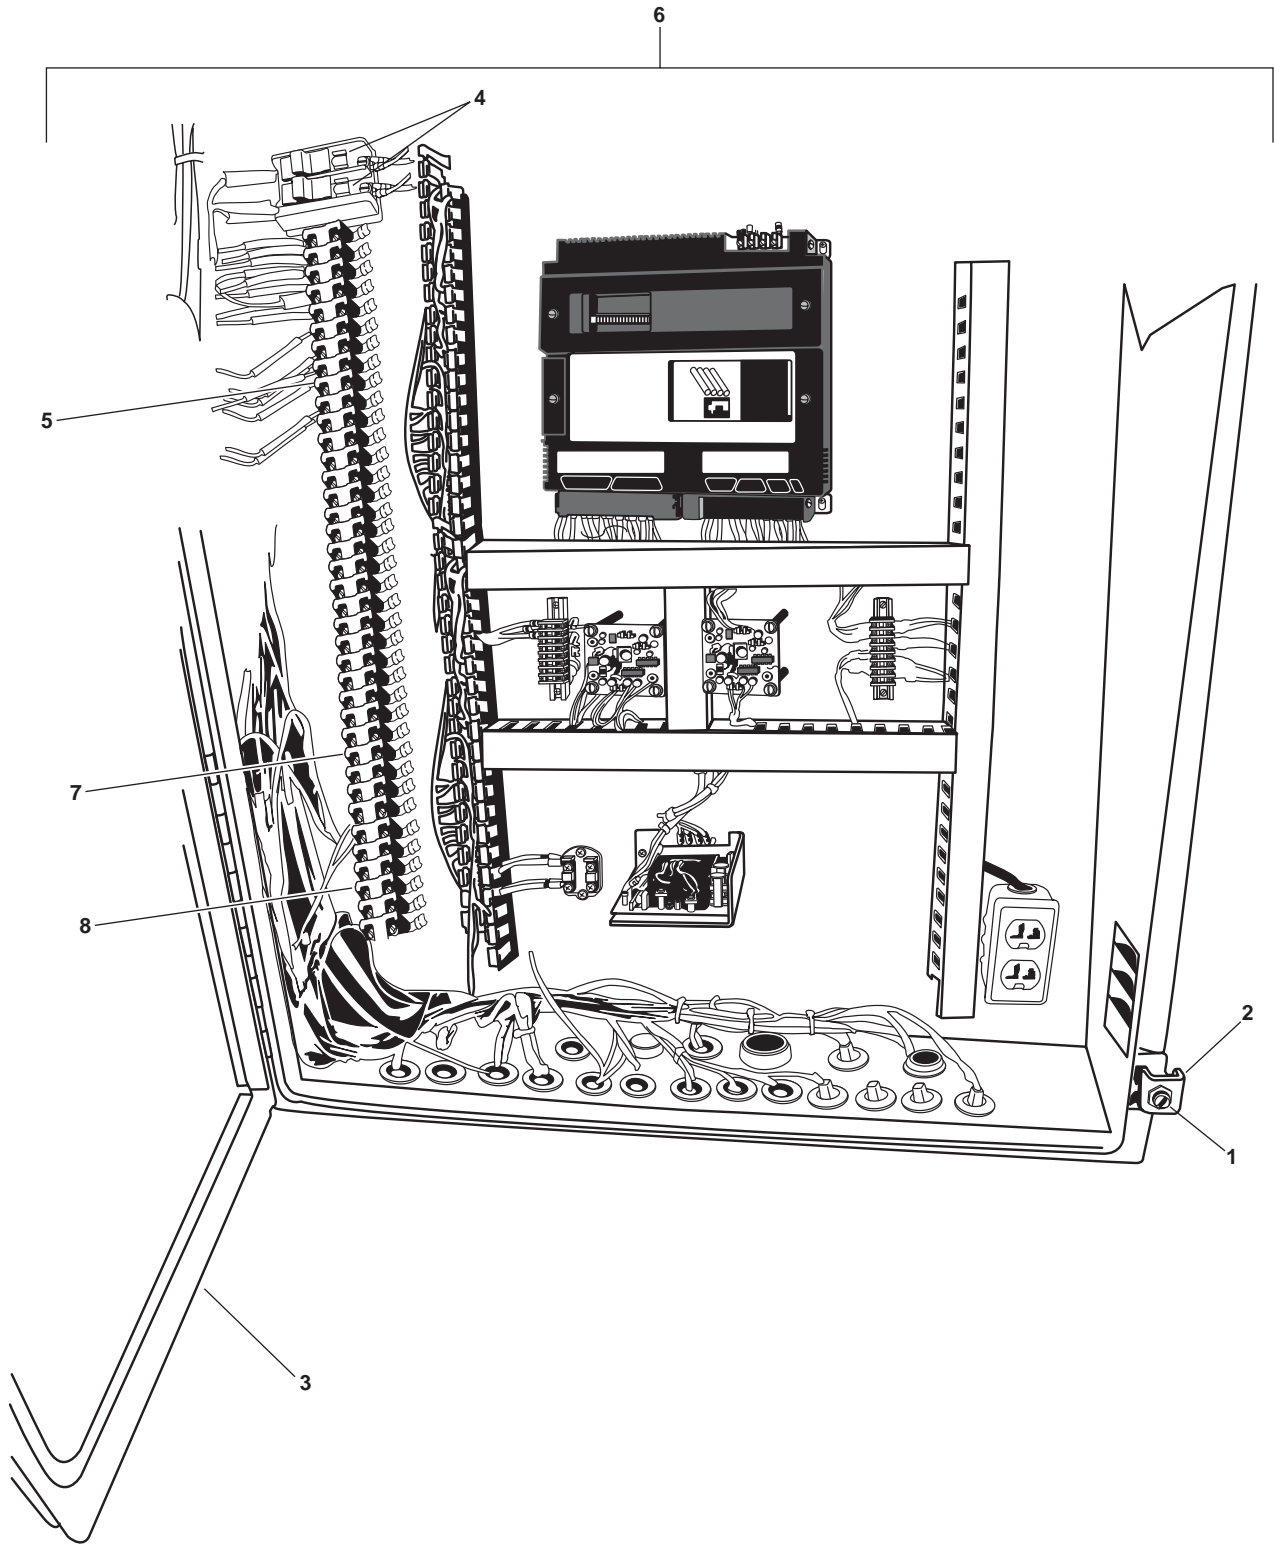

Figure 1. Towing Machine Control Panel
1. Loosen, but do not remove, the two screws (figure 1, item 1) on the two locking clamps (figure 1, item 2) that secure the towing machine control panel door (figure 1, item 3).
2. OPEN the towing machine control panel door (figure 1, item 3).
3. Use a multimeter to check for voltage at the fuse terminal (figure 1, item 4). If voltage is present, ensure that the proper breaker is secured, locked out, and tagged out (FM 55-502). If no voltage is present, continue with the procedure.
4. CLOSE the towing machine control panel door (figure 1, item 3) and secure it with the two locking clamps (figure 1, item 2) by tightening the two screws (figure 1, item 1).
6. Loosen, but do not remove, the two screws (figure 1, item 1) on the two locking clamps (figure 1, item 2) that secure the towing machine control panel door (figure 1, item 3).
7. OPEN the towing machine control panel door (figure 1, item 3).
8. Use a multimeter to check for voltage at the fuse terminal (figure 1, item 4). If voltage is present, ensure that the proper breaker is secured, locked out, and tagged out (FM 55-502). If no voltage is present, continue with the procedure.